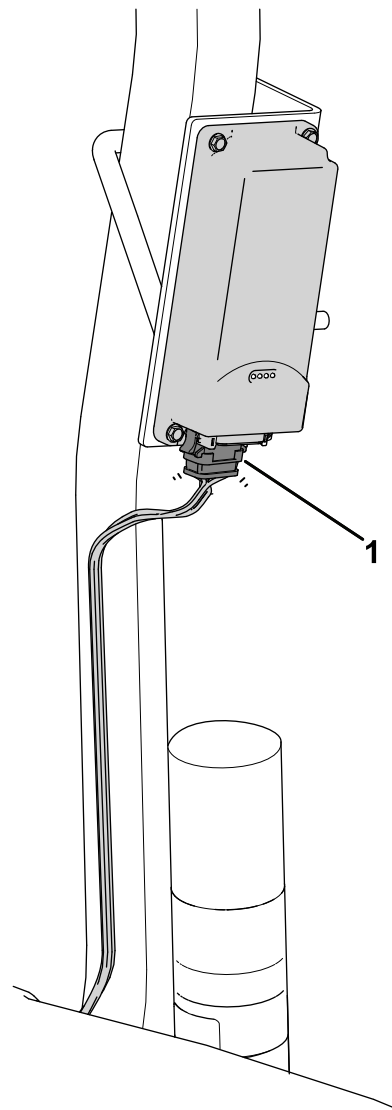

**Figure 7**
2. Use a U-bolt and 2 flange nuts (3/8 inch) to secure the device bracket to the area above the manual tube on the roll bar (Figure 7).